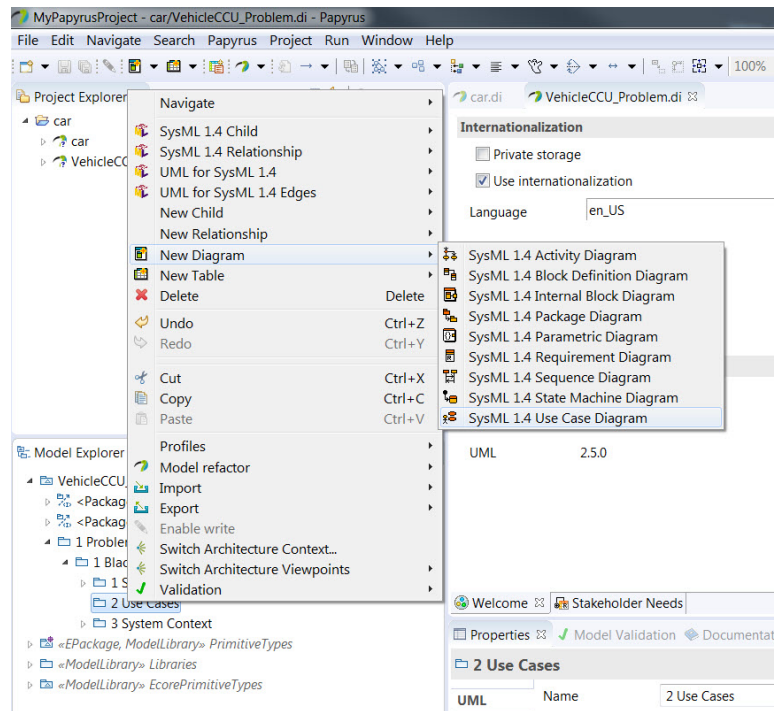
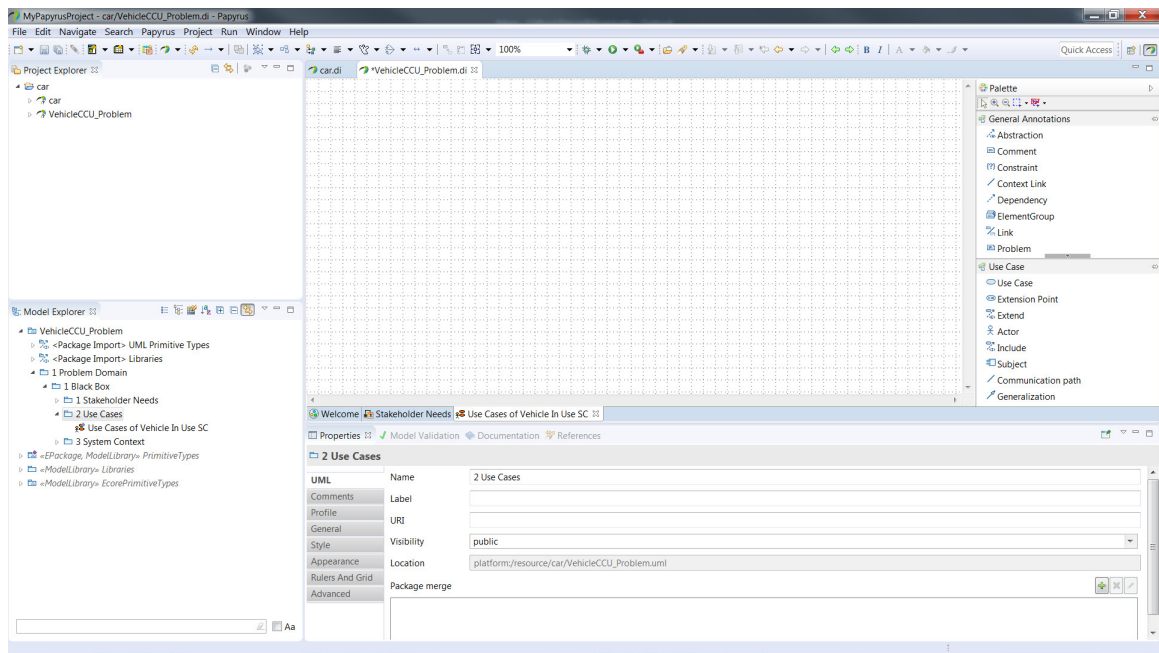

Figure 26: Use Case Diagram Creation
Figure 27: New Use Case Diagram
2. Now that we have created the use case package we need to create a Use Case Diagram. In the *Model Explorer* window, Right-click on the *2 Use Cases* package that you created in the previous step and select *New Diagram* and then *SysML 1.4 Use Case Diagram* (figure 26). Name the diagram *Use Cases of Vehicle In Use SC*. The new use case diagram will appear under your *2 Use Cases* package and a new blank use case diagram should appear in the main window (figure 27).